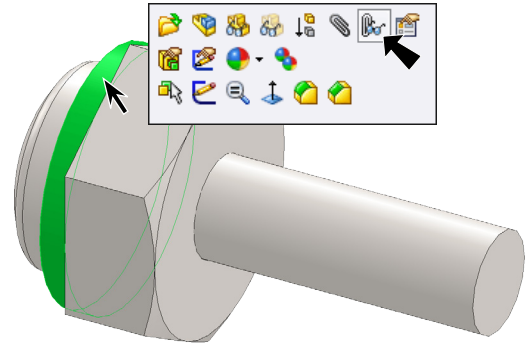

Fig. 18
Step 1. Click the **Washer** in graphics area and click **View Mates**  on the Context toolbar, **Fig. 18**.